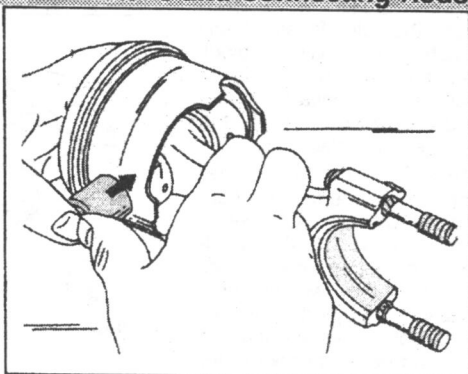

Fig. 1.68. — Fitting a piston pin.
- Lubricate the piston pins, piston pin bores and small end bores of the connecting rods and push the piston pin into piston and small end as shown in Fig. 1.68. A tight piston pin can be fitted easier if the piston has been warmed-up in hot water. The pin securing clip must be fitted to one side of the piston. Push the pin in position until it rest against the circlip and the fit the clip on the other side (engage fully).